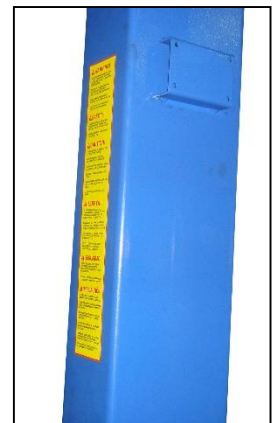

Fig. 5
2. Now determine which side you prefer the power unit to be located on. The MAIN column has the power-unit mounting bracket attached to the side, as shown in **(Fig. 5)**.